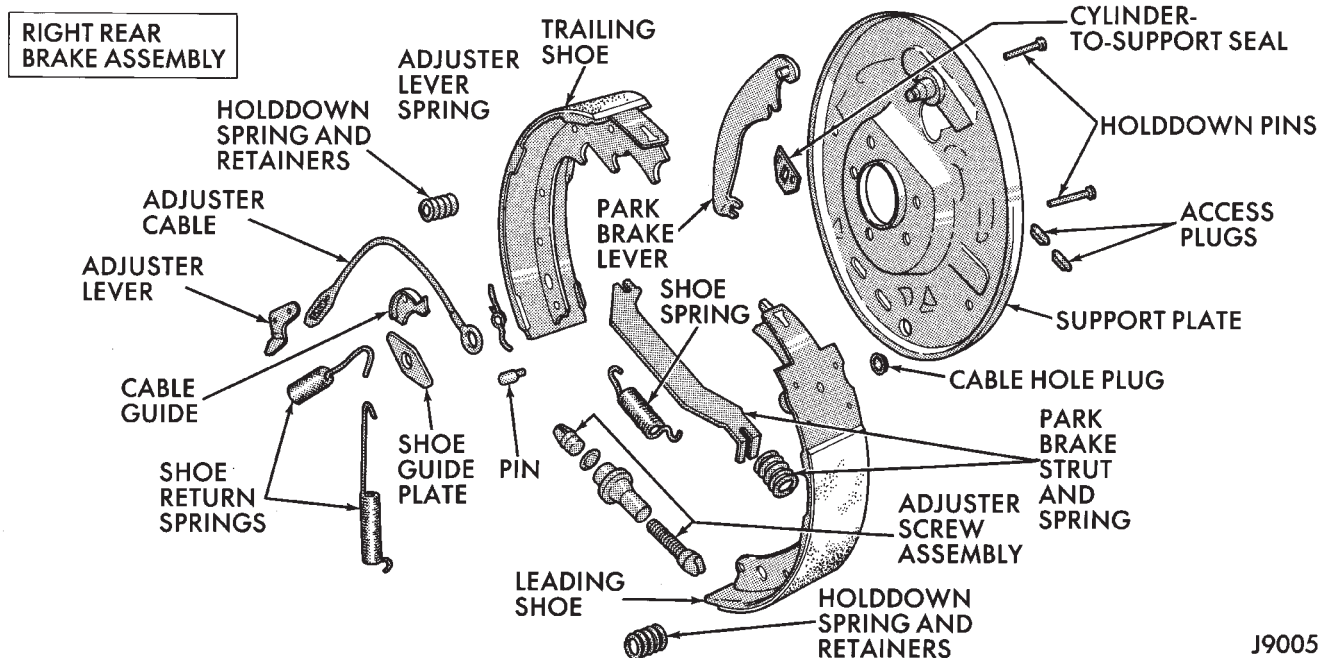

Fig. 33 Drum Brake Components—Typical
- (4) Remove U-clip and washer securing adjuster cable to parking brake lever (Fig. 33).
- (5) Remove primary and secondary return springs from anchor pin with brake spring pliers.
- (6) Remove hold-down springs, retainers and pins with standard retaining spring tool.
- (7) Install spring clamps on wheel cylinders to hold pistons in place.
- (8) Remove adjuster lever, adjuster screw and spring.
- (9) Remove adjuster cable and cable guide.
- (10) Remove brake shoes and parking brake strut.
- (11) Disconnect cable from parking brake lever and remove lever.